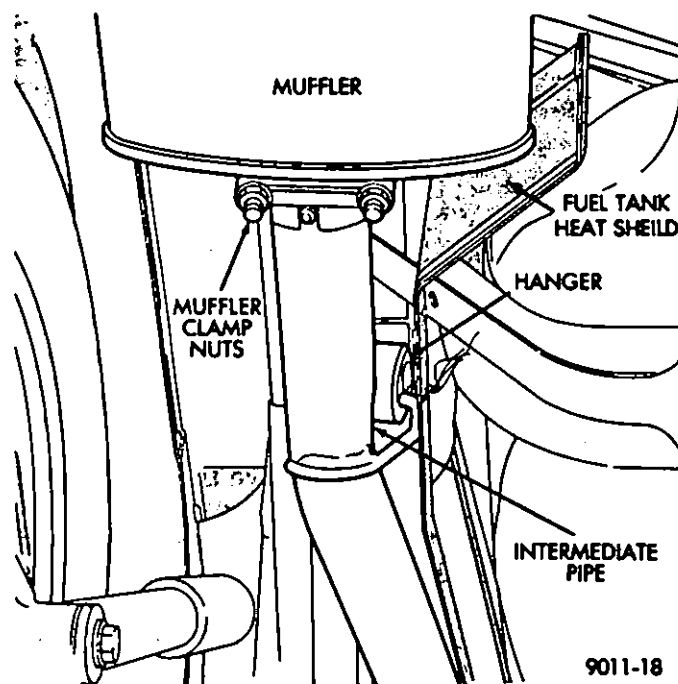

Fig. 14—Intermediate Pipe and Muffler
- (2) Remove the clamp nuts and clamp at the muffler end of the intermediate pipe (Fig. 14).
(3) Separate the intermediate pipe from the muffler and from the converter.
(4) Remove the pipe from the hangers (Fig. 14).
(3) Connect the intermediate pipe to the muffler (Fig. 14). Secure with clamp and nuts. Tighten the muffler clamp nuts to 45 N·m (33 ft-lbs) torque.
(1) Remove the muffler to intermediate pipe clamp and nuts (Fig. 14).
(2) Remove the muffler from the hanger.
(3) Separate the muffler from the intermediate pipe.
(1) Install the muffler on the intermediate pipe.
(2) Install the muffler to the hanger.
(3) Install the intermediate pipe clamp at the muffler (Fig. 14). Tighten the nuts to 45 N·m (33 ft-lbs) torque.